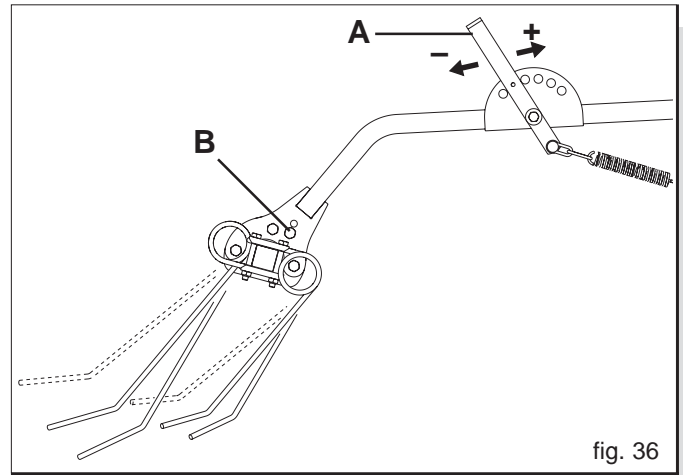

fig. 36
The planting unit may be equipped with back seed covering harrow. Carry out installation (Fig. 36) before using the planting unit by following the diagram that comes with the machine:
- Assemble the six harrow support arms (1), as shown in the figure.
- Disassemble the outer teeth (2) on the three sections of the harrow.
- Couple the square section bar to the harrow support arms (3).
- Reassemble the outer teeth (2).
The working pressure of the seed covering harrow spring-operated teeth can be regulated by using the lever (A, Fig. 36). Changing the position of the bolt (B), vary the cutting angle of the spring-loaded teeth.